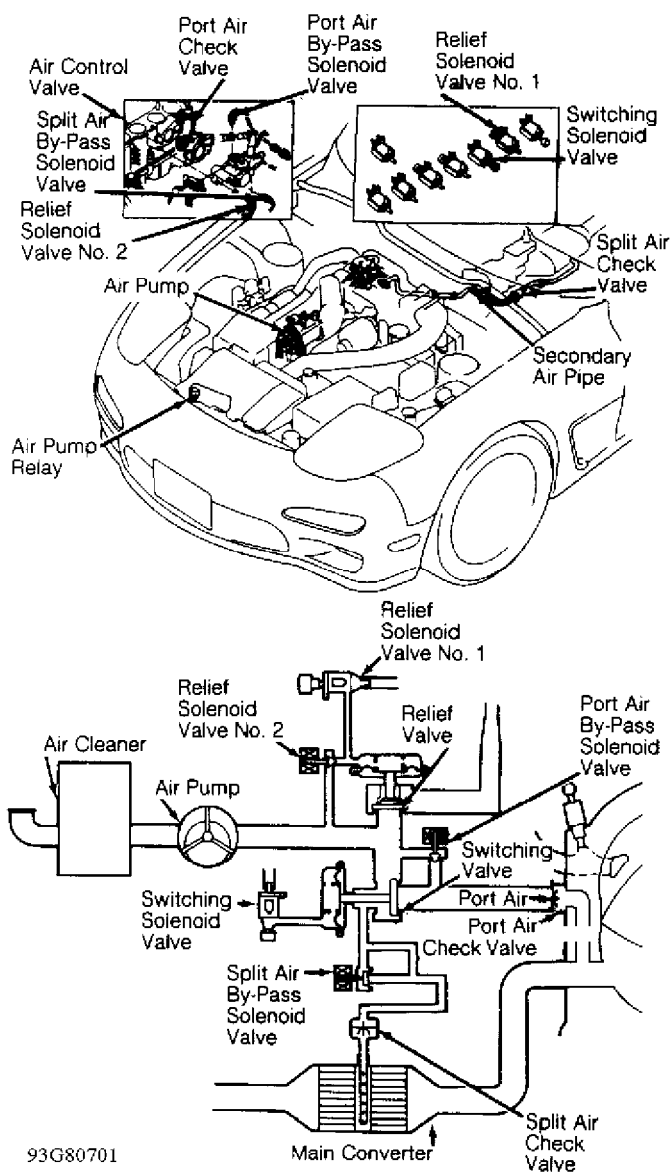

Fig. 58: View Of Air Injection System (RX7)
2) If engine idles rough, air control valve and switching valve solenoid are okay. See Fig. 58. If engine does not idle rough, check vacuum routing, switching valve solenoid, air pump and air control valve.
2) Disconnect electrical connector from relief valve solenoid No. 1. Using jumper wires, energize solenoid. If air flows from air relief valve, air relief valve and relief valve solenoid No. 1 are okay. See Fig. 58. If air does not flow, check vacuum routing, relief valve solenoid No. 1, air pump and air control valve.
Disconnect electrical connector from each solenoid. See Fig. 58. Using jumper wires, energize solenoid. Ensure each solenoid clicks. Measure resistance across solenoid terminals. Resistance should be 26-33 ohms at room temperature. If any solenoid does not test as described, replace solenoid.
1) Operate engine at idle. Disconnect hose between air pump and air control valve. See Fig. 58. Ensure exhaust gas is not leaking from port air check valve. If exhaust gas is leaking, replace air control valve.
2) Disconnect hose from split air check valve. See Fig. 58. Increase engine speed to 2000 RPM and verify exhaust gas is not